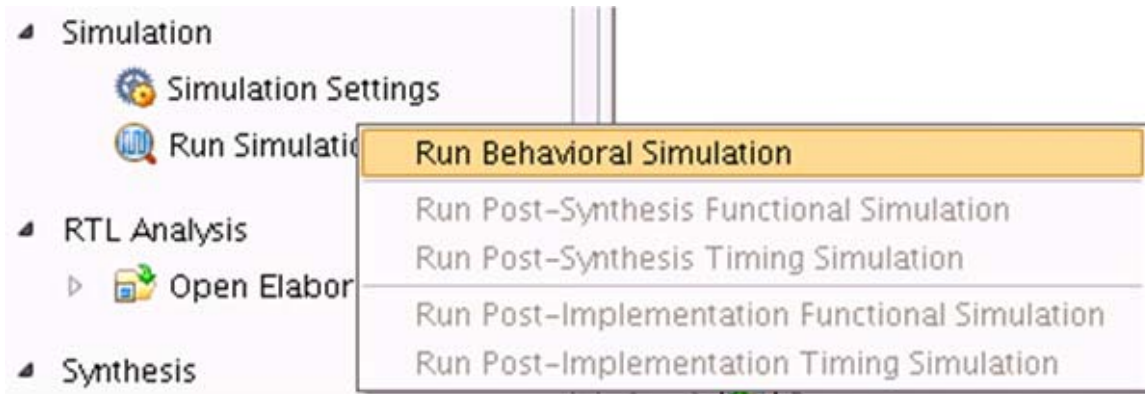

Figure 3-65: Run Behavioral Simulation
3. In the **Flow Navigator** window, select **Run Simulation** and select **Run Behavioral Simulation** as shown in Figure 3-65.
4. In the **Flow Navigator** window, select **Run Simulation** and select **Run Behavioral Simulation** as shown in Figure 3-65.